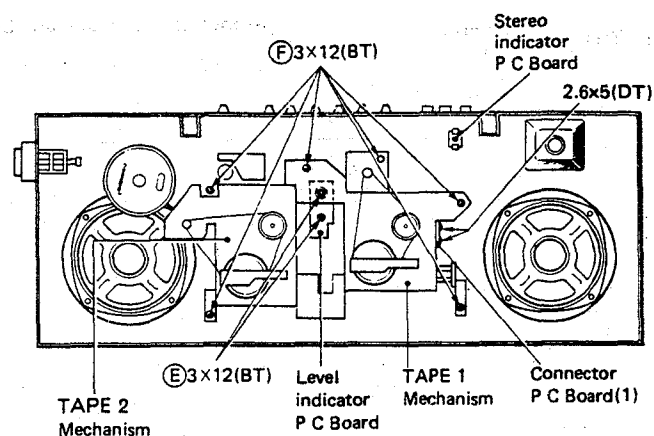

Fig. 6
7. Level indicator PC Board removal (Fig. 6)
The indicator PC Board can be removed by removing 2 fixing screws (E) shown in Fig. 6.
8. Stereo indicator PC Board removal (Fig. 6)
9. Cassette mechanism (TAPE 1 and 2) removal (Fig. 6)
The cassette mechanism (TAPE 1 and 2) are removed while they are assembled together by removing 6 screws (F) shown in Fig. 6.